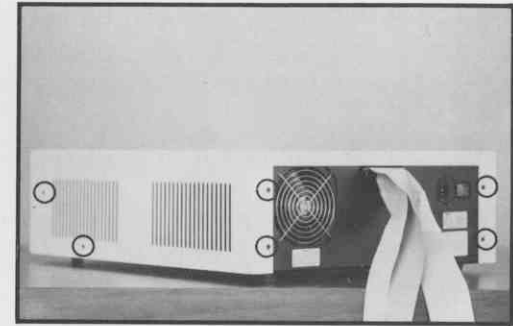

Figure 97 Peripheral Subsystem Unit
Remove four (4) Phillips screws at the back of the Subsystem unit as shown in Figure 97. If your subsystem is rack mounted, the cover normally secured by these screws is probably already removed.
6.40 Remove two (2) Phillips screws on each side of the Subsystem unit (Figure 97).